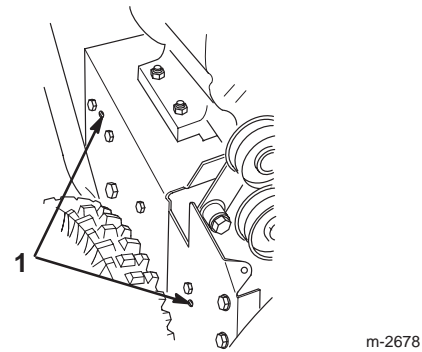

Figure 34
18. Install the 2 screws that secure the auger brake arm assembly. Ensure that the tabs fit into the holes in the left side of the snowthrower (Fig. 34).
14. Install the 2 screws that secure the auger brake arm assembly. Ensure that the tabs fit into the holes in the right side of the snowthrower (Fig. 34).